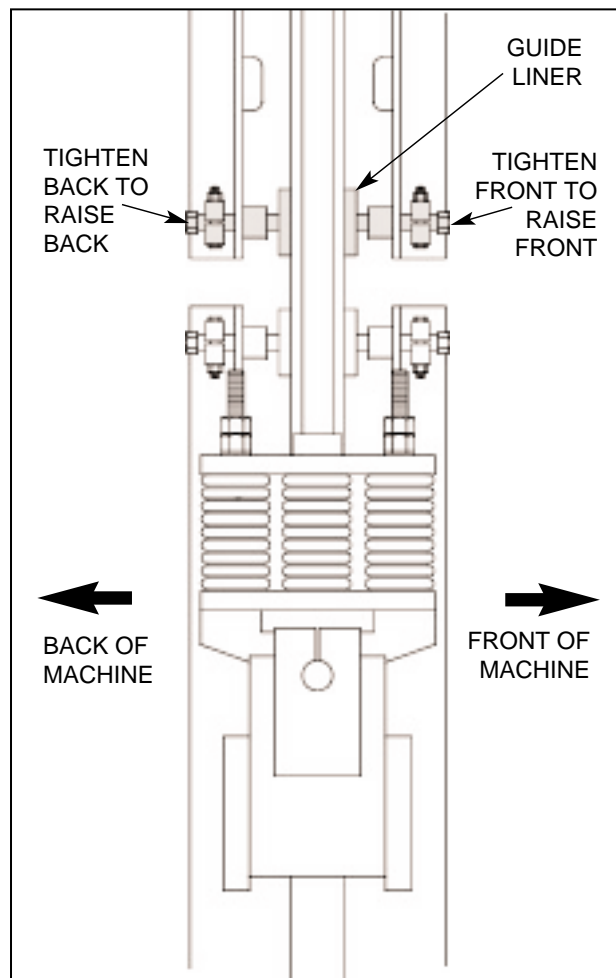

Figure 5.32 STRIPPER HEAD FRAME ADJUSTMENT.
- 5.7.5 Make adjustment on the right hand side by backing one lower stripper head guide liner away from the slide shaft and tightening the other against the slide shaft. To raise the front, loosen rear and tighten front. To raise the back, loosen the front and tighten the rear (see figure 5.32).